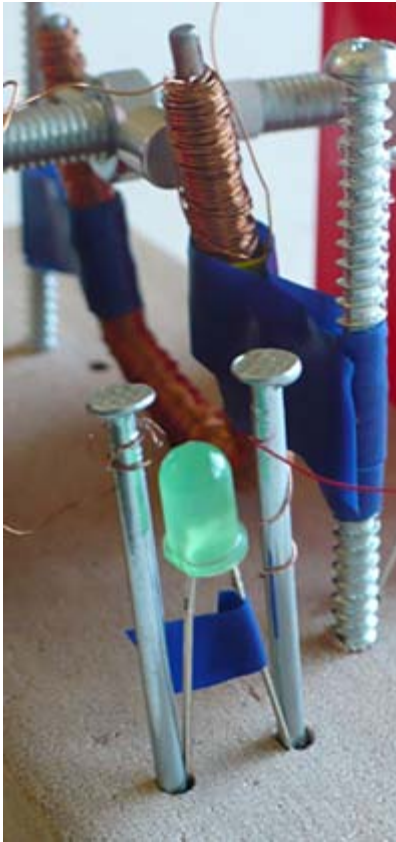

Figure 19. Electrical connections between the coil leads and an LED are created using two nails.
- c. Use masking tape to secure the coil in place. Note electrical tape stretches a little and will not do a good job keeping the coil in place. Figure 19, above, shows a finished generator using one coil and six neodymium magnets to generate electricity.
- c. Place the two legs of an LED light in the pair of pre-drilled holes next to one of the screws holding the coil, as shown in Figure 19, below. Place the nails in the same holes, making sure each nail touches one leg of the LED to create electrical connections.